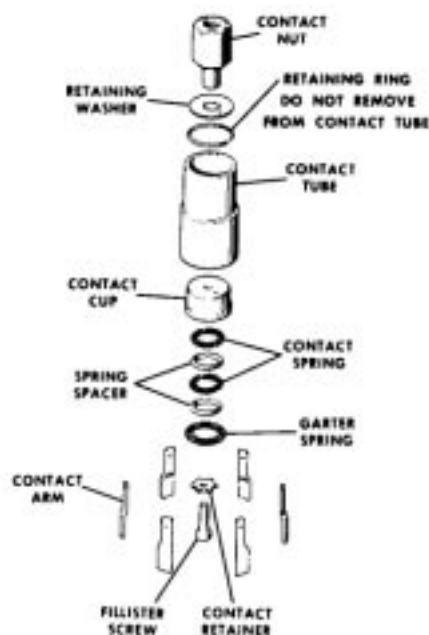

Figure 16
6. Insert a large screwdriver through the stationary contacts to engage the fillister screw slot. With a box wrench, loosen and remove the contact nut while the special screwdriver is held securely in a vise. Remove contact arms, contact cup, and retaining washer, leaving the retaining ring which rests in a slot on the inside of the tube. Figure 16 shows a dismantled stationary contact assembly.